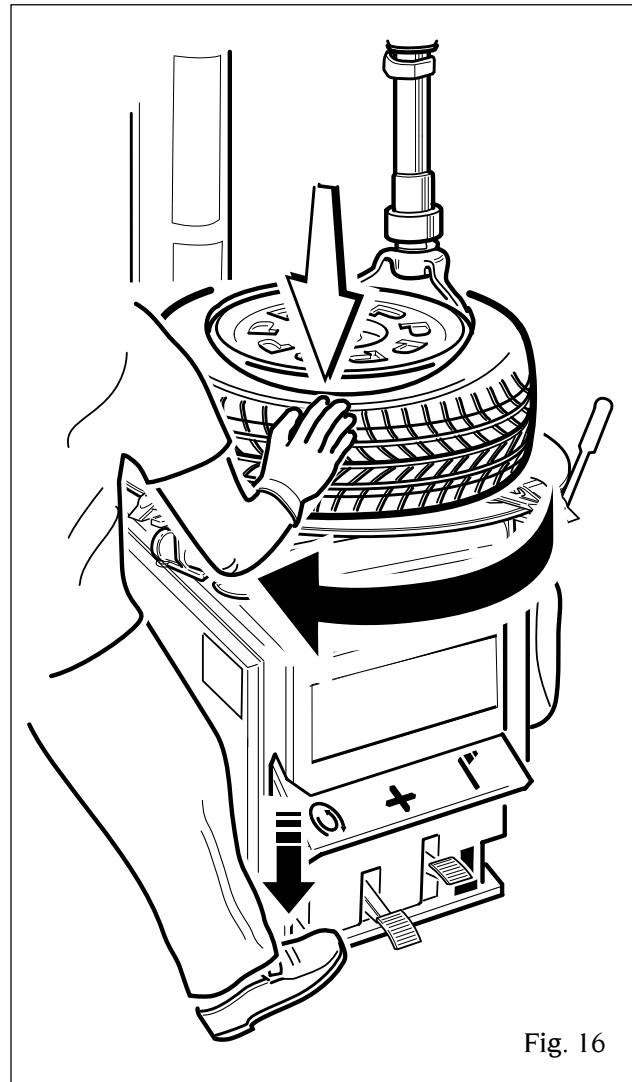

Fig. 16
- ❑ Once the bottom bead is completely mounted, repeat the same steps for the upper bead (Fig. 16).